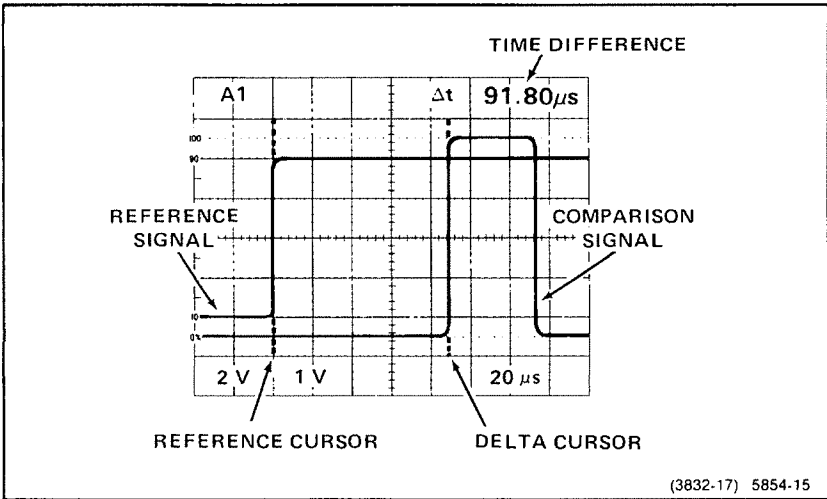

Figure 3-4. Time between two pulses (cursor method).
5. Turn on Δt and align the cursors with the intersections of the waveforms with the chosen graticule lines. (See Figure 3-4.)